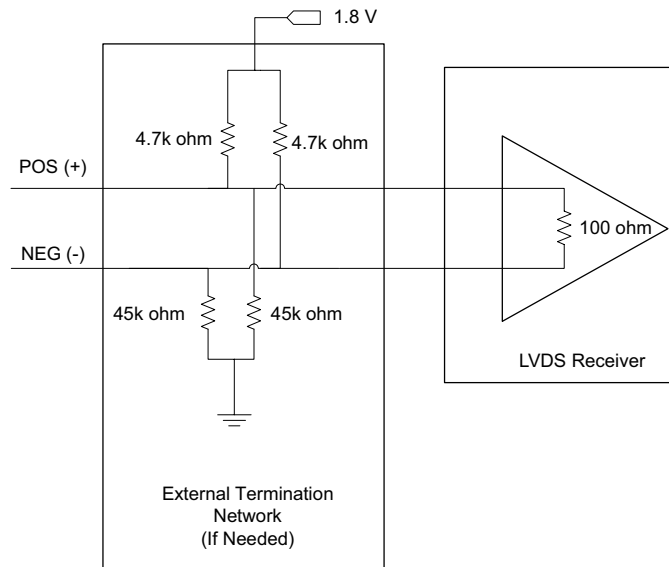

Figure 4. External Terminations: Receiver With 100-Ω Termination
- If the LVDS receiver includes the 100-Ω termination but no biasing, use the external terminations shown in Figure 4